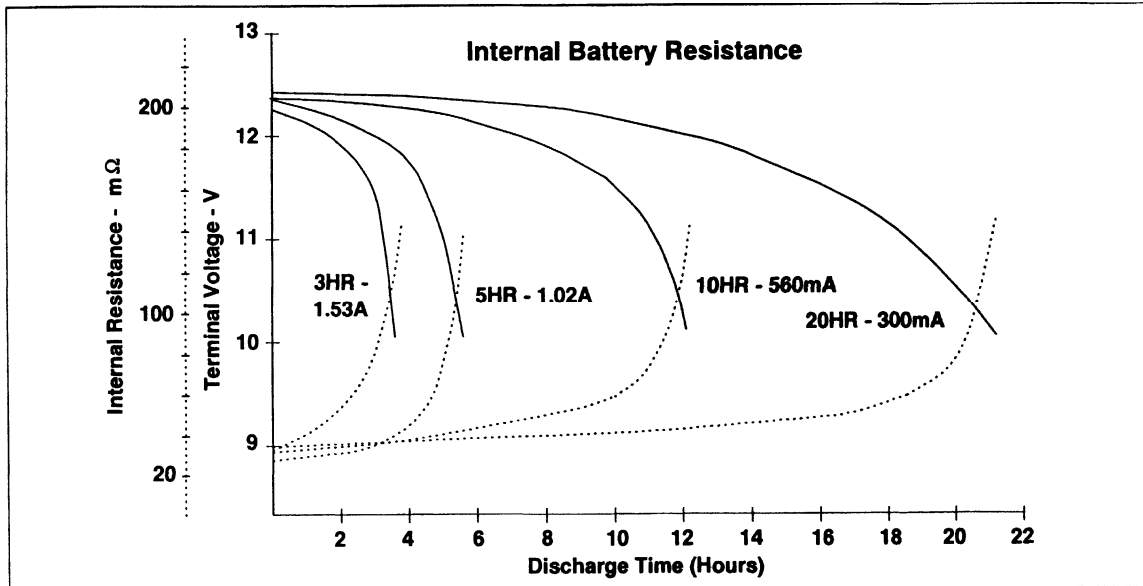

Figure 12. Internal Resistance of Yuasa NP6-12 Battery
The output power stage in a buck topology charger comprises the inductor L and the parallel combination of the output capacitor,  $C_o$ , and impedance of the battery (see Figure 12). The output capacitor is electrolytic and in the range from  $47\mu F$  to  $100\mu F$ . It nullifies the inductive effect of long leads from the charger terminals to the battery.
The battery impedance can be represented as a capacitor (CB) in series with its internal impedance (R) as shown in Figure 12. The capacitance can be empirically derived from the amp-hour rating of the battery. The rule of thumb is:
Figure 12 shows the variation of the internal impedance of a Yuasa NP6-12 (12V, 6 amp-hrs) battery as a function of its state of charge.